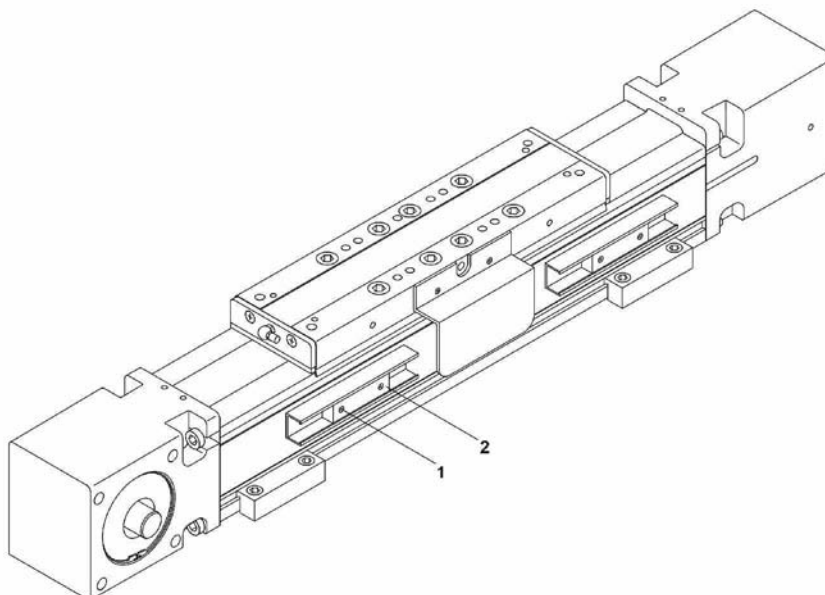

Fig. 4:
1. **Fig 4:** Release the proximity switch by loosening the attachment screw (1).
2. Move the proximity switch (2).